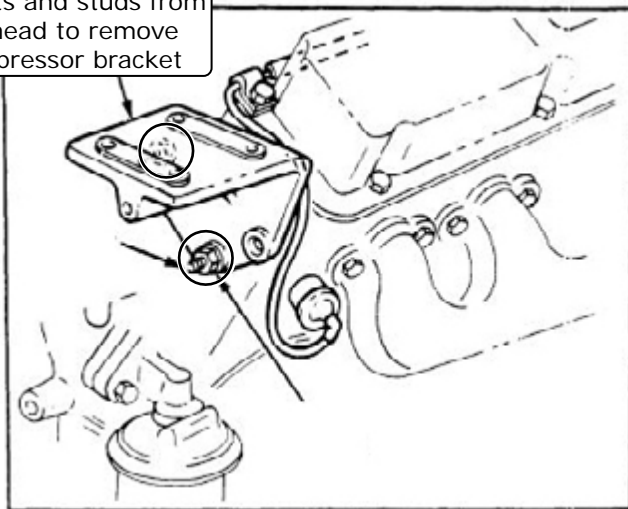

Figure 4
7. Remove the nuts and studs from the cylinder head to remove the OEM compressor bracket (See Figure 4, below).
11. Remove the (3) bolts that hold the power steering pump to the mounting bracket. Set the power steering pump off to the side.
12. Remove the (2) bolts from the water pump and the (1) bolt in the cylinder head to remove the OEM bracket assembly (See Photo 2, below).